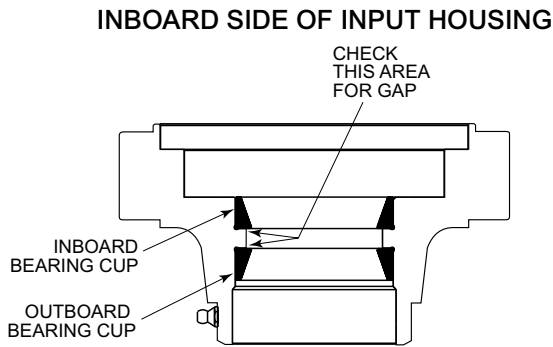
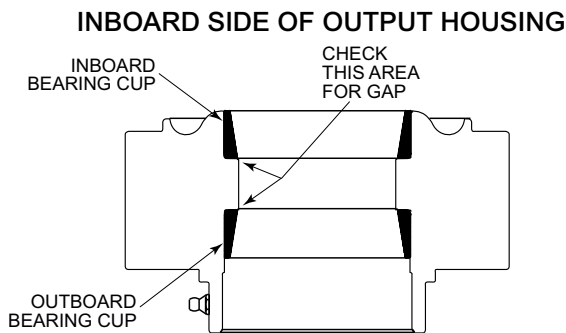

Figure 6.3.4a Installation of Bearing Cups in Input Housing
Figure 6.3.4b Installation of Bearing Cups in Output Housing
- With a 0.001" or 0.040 mm feeler gage, make sure that there is no gap between the housing and the bearing cups to insure proper cup seating. Reference **Figure 6.3.4a** and **Figure 6.3.4b**.